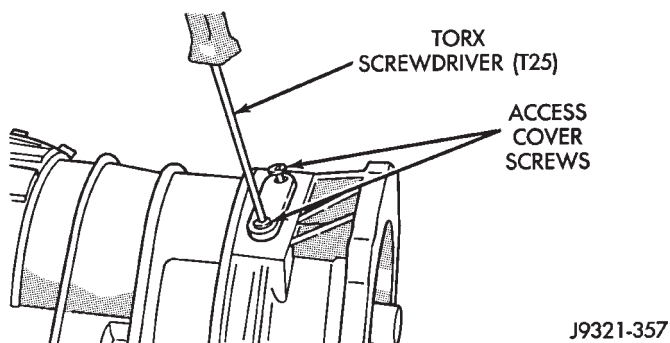

Fig. 256 Access Cover Screw Removal/Installation
(3) Remove Torx head screws that attach access cover and gasket to overdrive case (Fig. 256). A T25 size Torx head bit is required.